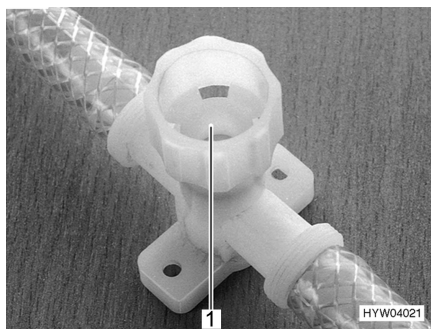

Fig. 60 Drain cock for hot water source
- Close all drain cocks. To do this, close the caps (Fig. 60,1) by turning them in a clockwise direction.
- Open all drain cocks of the hot water source. To do this turn the caps (Fig. 60,1) in an anticlockwise direction.